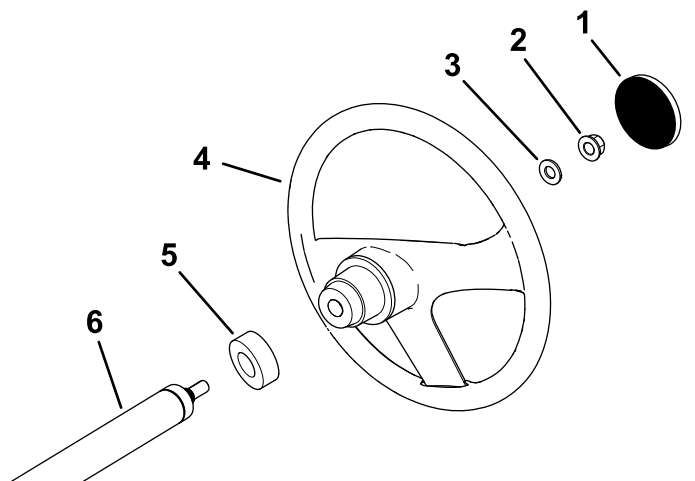

Figure 3
1. If the cover is installed, remove it from the hub of the steering wheel (Figure 3).
2. Remove the locknut (1/2 inch) from the steering shaft (Figure 3).
3. Slide the steering wheel, dust cover, and washer (1/2 inch) onto the steering shaft (Figure 3).
5. Install the cover on the steering wheel (Figure 3).